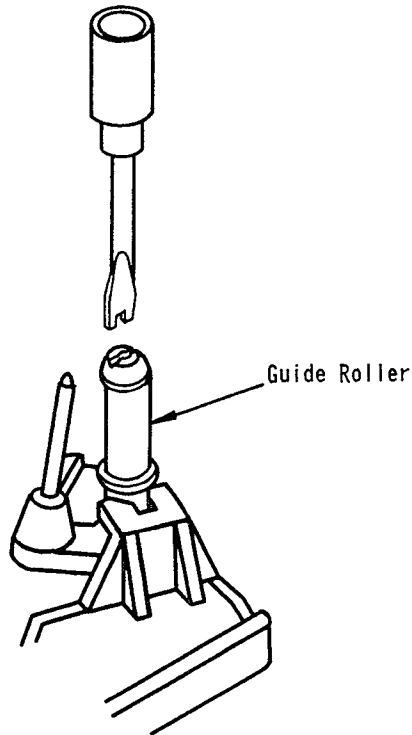

Fig. 5-5
- Next, adjust the guide roller height. Insert the adjustment driver (FSJ-0001) into the guide roller top. (Refer to Fig. 5-5.)